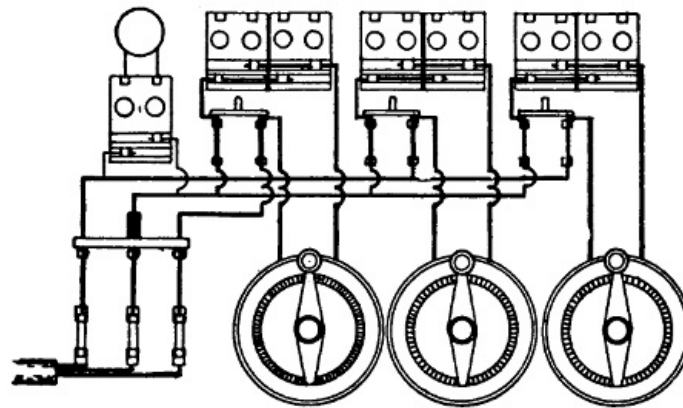

FIGURE 193.
*Dimmer Box.*—The dimmer box, as the name implies is a box which contains the resistances required for dimming lights used on the stage. It comes into service only with the more pretentious shows which carry foot-lights or border-lights. A typical wiring diagram is shown in Figure 193. This diagram supposes that not more than three colors are used. A small candle power incandescent lamp should always be installed in the box so that the operator may see what is necessary in dark scenes. This lamp should have its own fuse protection. This is a point very often overlooked by operators. The box is usually made of wood and lined with metal. It should be deep and nearly square, so as to occupy a minimum of space. If a shallow box is used, it will be necessary to place the switches in a separate compartment from the fuses, so that the latter may be always enclosed, even while the dimmers and fuses are being operated.